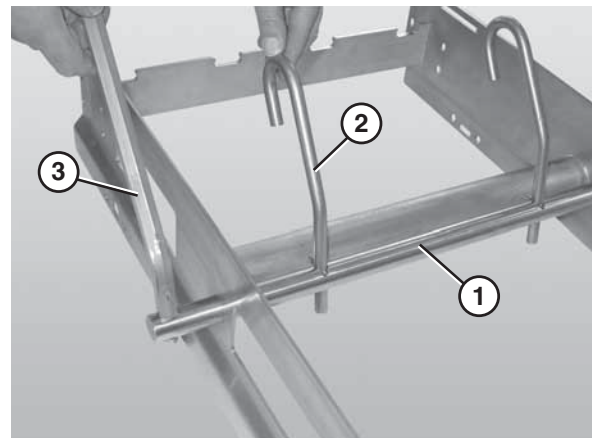

Figure 31
1. Slide the belt lift pivot bar (**Figure 31, item 1**) through the designated holes in the frame.
2. Attach the lifter bars (**Figure 31, item 2**) to the belt lift pivot bar (**Figure 31, item 1**). Make sure the hooked ends of the lifter bars are facing down when resting against the frame.
3. Attach the lifter handle (**Figure 31, item 3**) to the belt lift pivot rod.